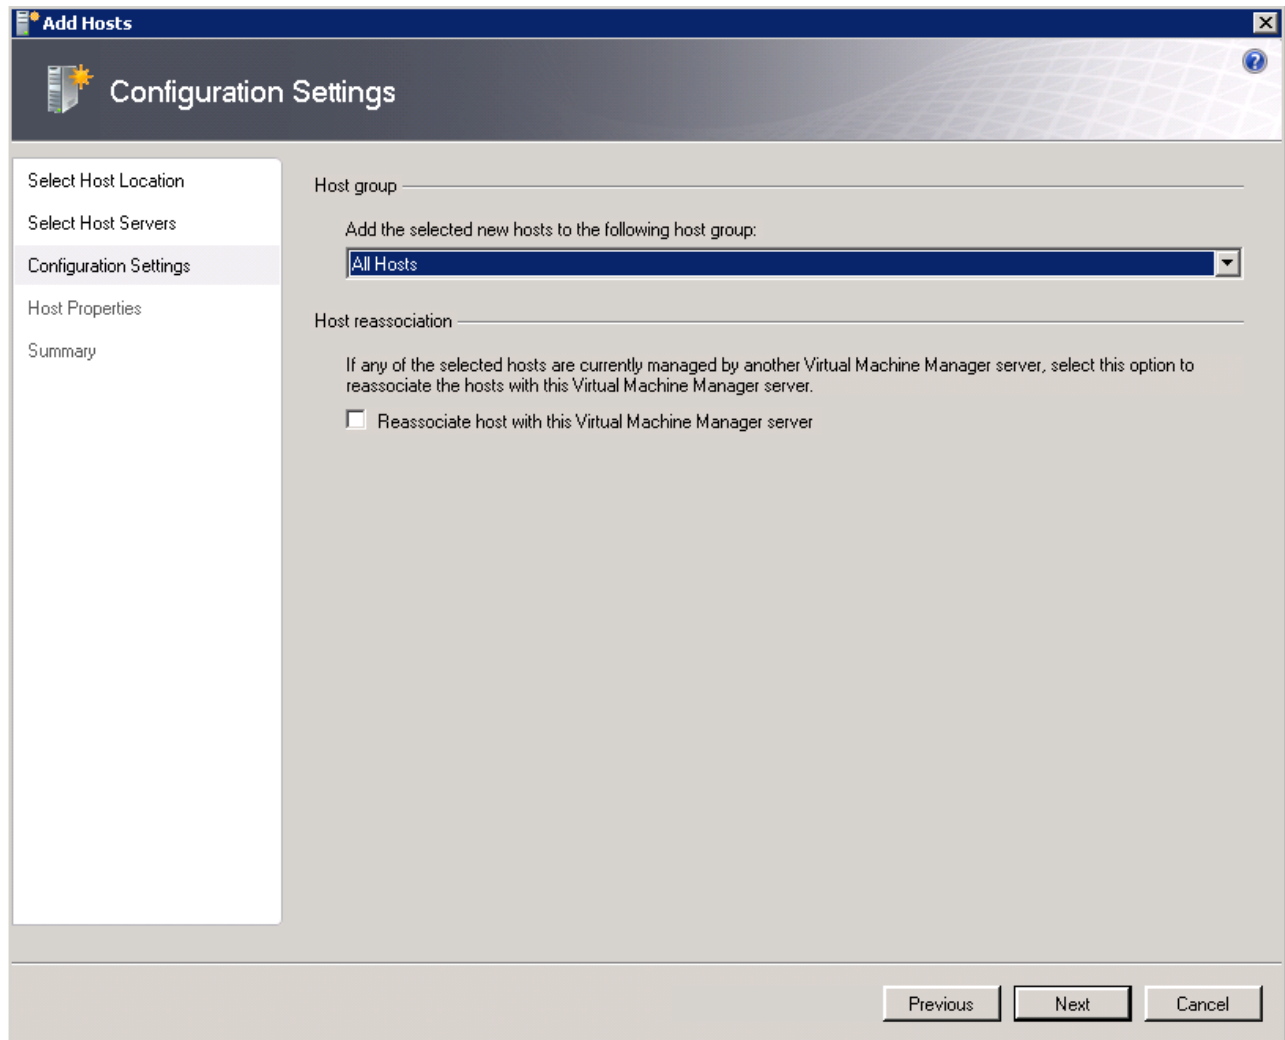

Figure 3-4 Add Hosts wizard: Configuration Settings
4. Select the host group that contains the host in the Configuration Settings window (shown in Figure 3-4).